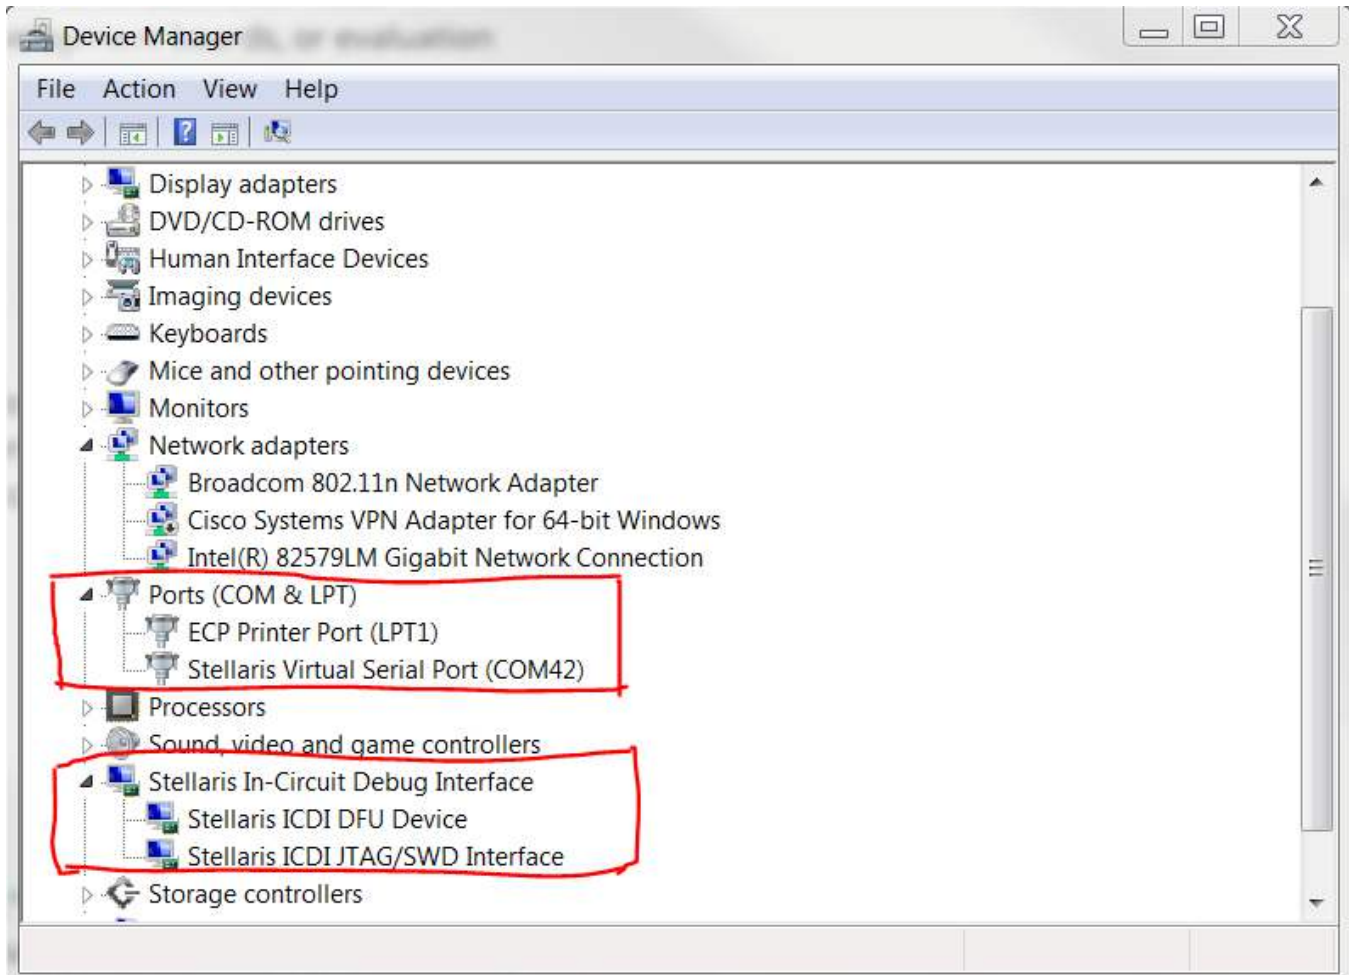

Figure 5. TM4C1294 LaunchPad™ Stellaris Virtual Serial Port and ICDI Driver
4. Open the computer's "Device Manager". You must be able to see the "Stellaris Virtual Serial Port" and "Stellaris In-Circuit Debug Interface" as shown in Figure 5.